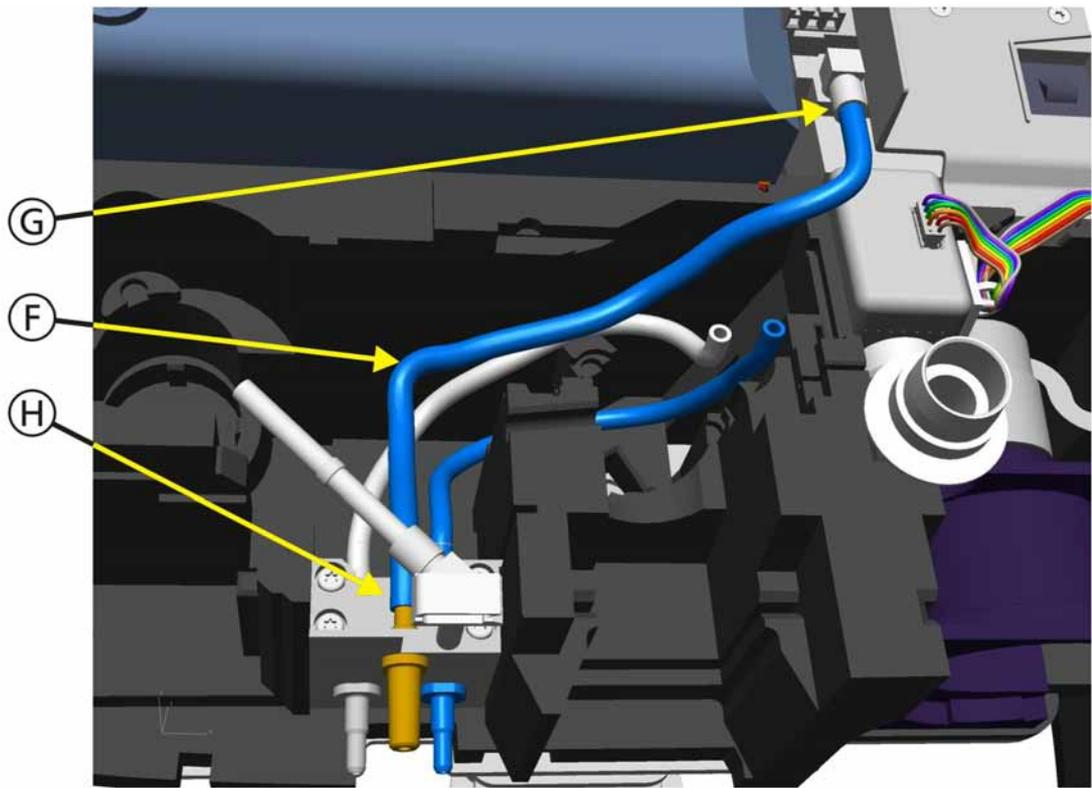

Figure 11-59. Front Panel Connector Block and Tubing Assembly, Step 3
- Figure 11-59, *Front Panel Connector Block and Tubing Assembly, Step 3*, on page 11-66